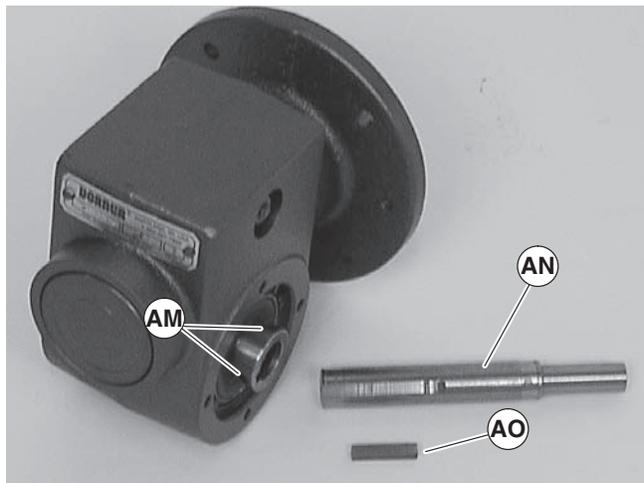

Figure 25
- Remove two (2) screws (AJ) and detach output shaft cover (AK).
- Remove gear reducer output shaft key (AL).
- Loosen six (6) set screws (Figure 25, item AM). Remove drive shaft (AN) and key (AO).
- Replace the original shaft components into new gear reducer (see Figure 25).